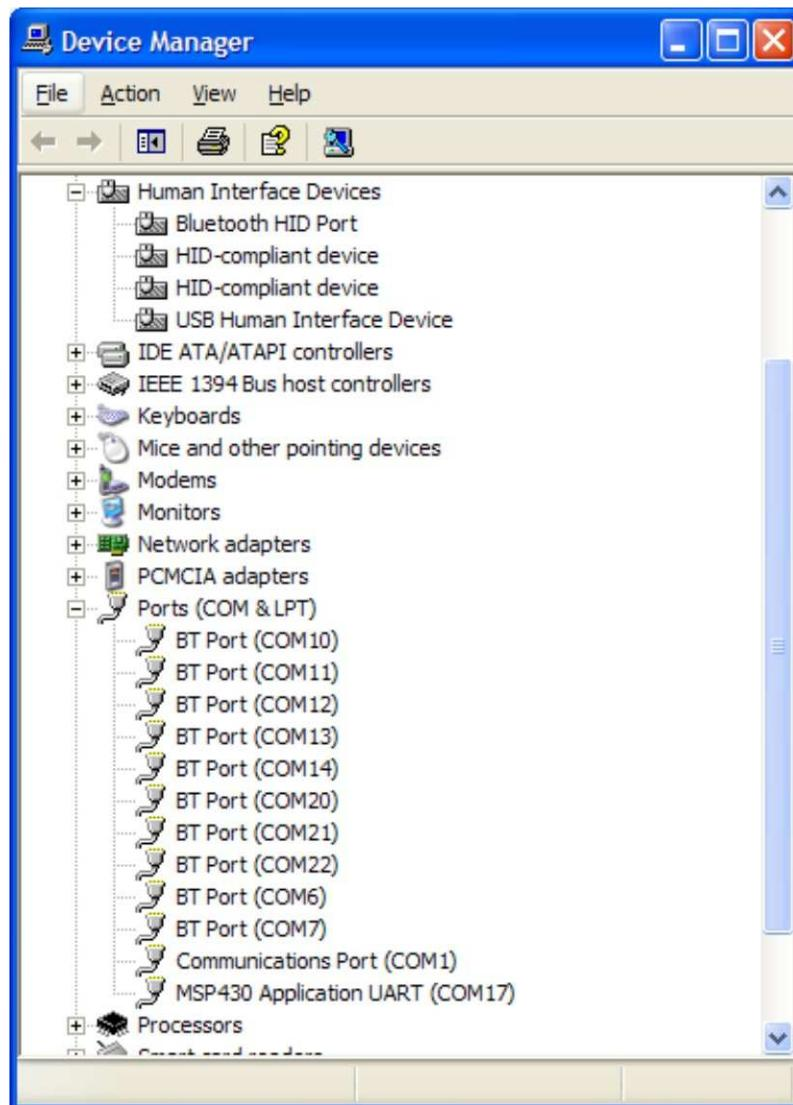

Figure B-9. eZ430-RF in Windows Device Manager as HID and COM Port Devices
5. The USB debug interface is installed and ready to use. The Windows Device Manager lists a new entries for a Human Interface Device and the MSP430 Application UART (COMx) (see Figure B-9).